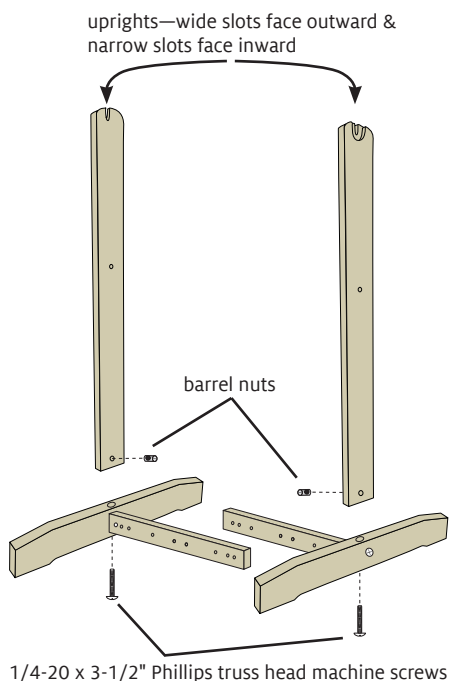

FIGURE 4: ATTACH UPRIGHTS TO BASES
5. Orient uprights with the narrow slots at the top and facing each other (Figure 4).
6. Working from the underside of each base, use 1/4-20 x 3-1/2" Phillips truss head machine screws and barrel nuts to attach the uprights to the bases (Figure 4).